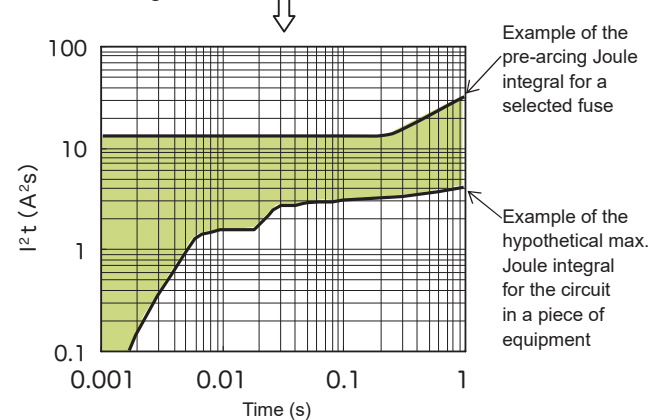

Figure 5 - Fuse selection example for an inrush current
- v) As in Figure 5, plot the graph with the circuit's maximum Joule integral and the fuse's pre-arcing Joule integral as functions of the time. In order to prevent nuisance operation, the relationship of maximum circuit Joule integral  $\leq$  fuse pre-arcing Joule integral is always necessary, and in order to prevent nuisance operations caused by aging, it is necessary to select fuses with sufficient margin (for example, the shaded region in Figure 5). As the necessary margin differs depending on the usage conditions, it is necessary to perform evaluations in the actual equipment the fuse will be used in.